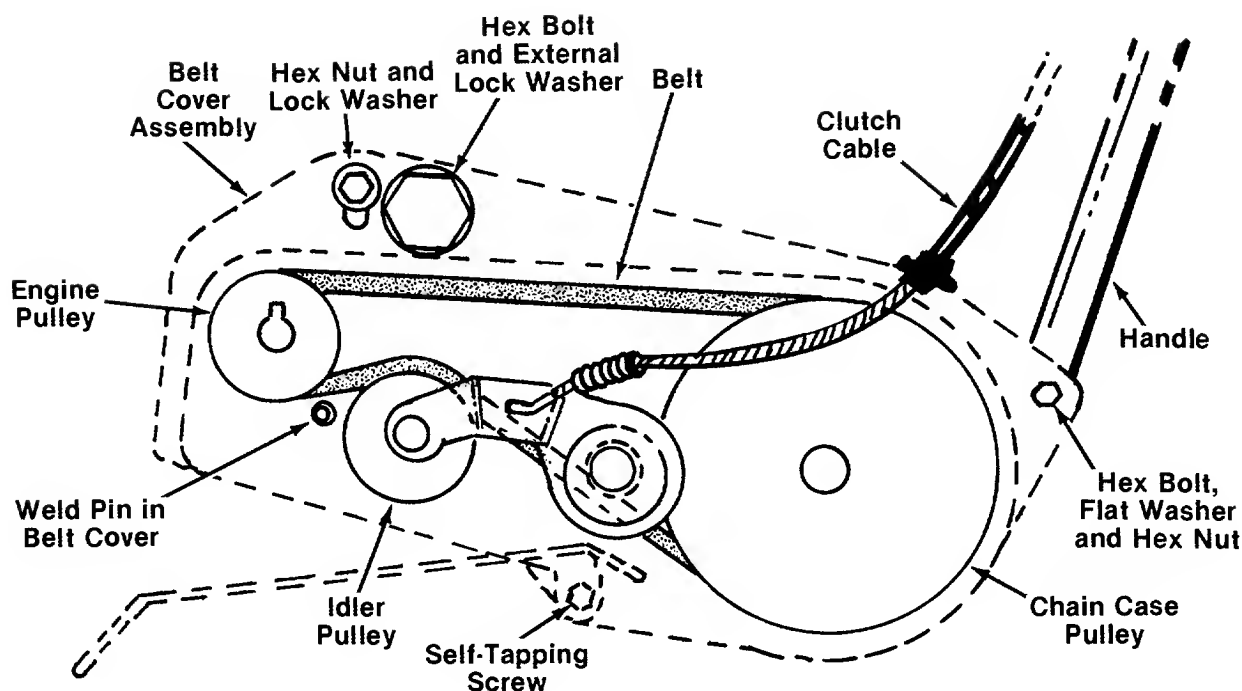

FIGURE 20.
1. Remove belt cover assembly by removing one hex nut and lock washer, one self-tapping screw, one hex bolt, flat washer and hex nut and one hex bolt and external lock washer. See figure 20.
2. Lift the belt cover assembly off the tiller. Be careful not to bend or kink the clutch cable. See figure 20.
Upon reassembly of belt cover, place the belt over top of the idler pulley and between engine pulley and weld pin on belt cover assembly. See figure 20.